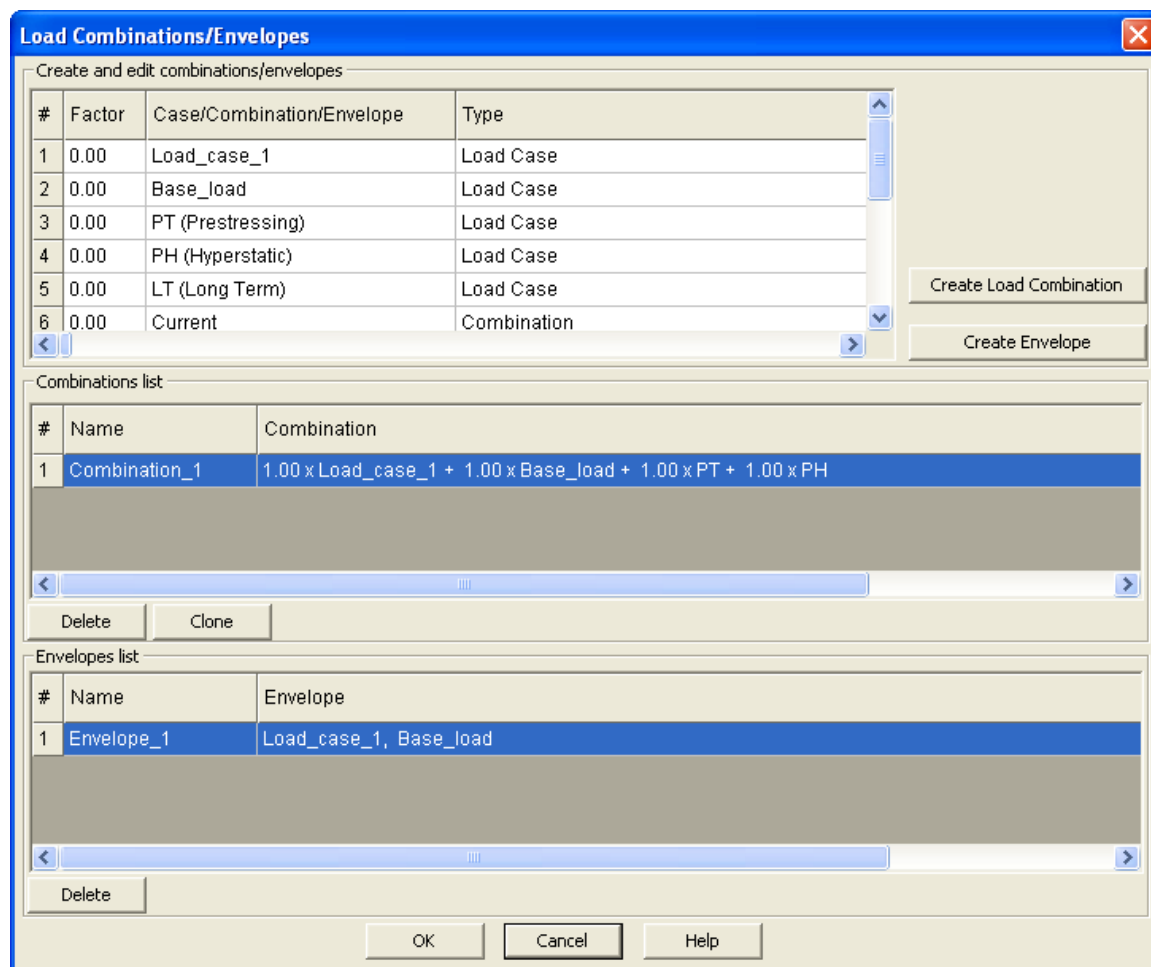

FIGURE 1.8-20 COMBINATIONS DIALOG WINDOW
**Load Combinations/Envelopes.** This menu item enables you to create load combinations and envelopes. Once clicked, the Combinations dialog window opens (**Fig. 1.8-20**). To define a load combination follow the steps: